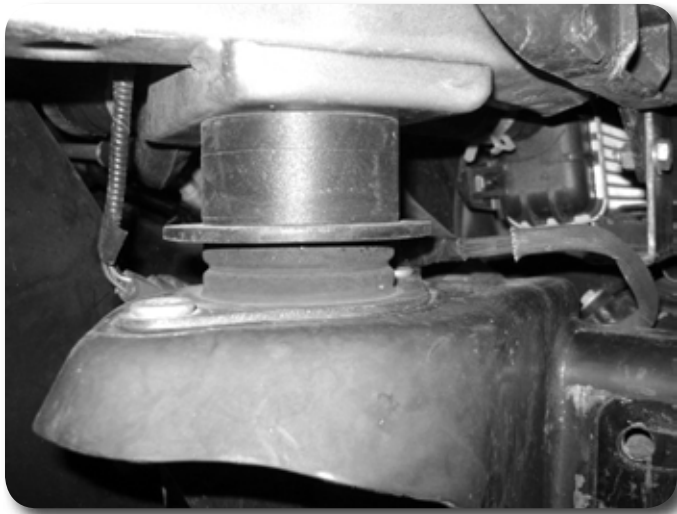

Figure 12
15. Slowly raise the side of the cab with two hydraulic jacks on the side with the hardware removed. Check hoses and wires while lifting the cab for adequate slack. Install the body lift blocks with new 12mm hardware once lifted enough to get the blocks in place. Figure 12